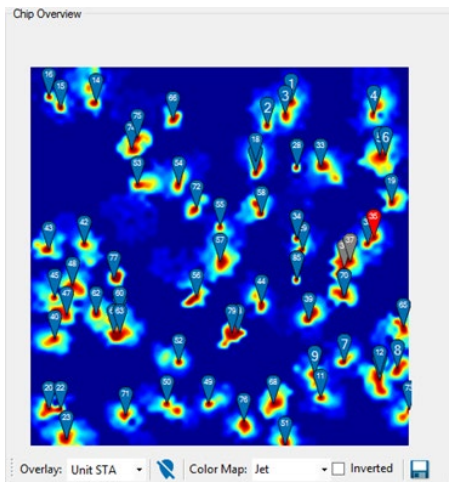

Figure 16: Chip Overview with markers
- **Unit STA:** The Unit STA measure is shown in a heat map. It shows a score for the relative contribution of each sensor to the detected units. See section „Unit STA Measure" on page 118 for details on this measure and Figure 16 for an example.